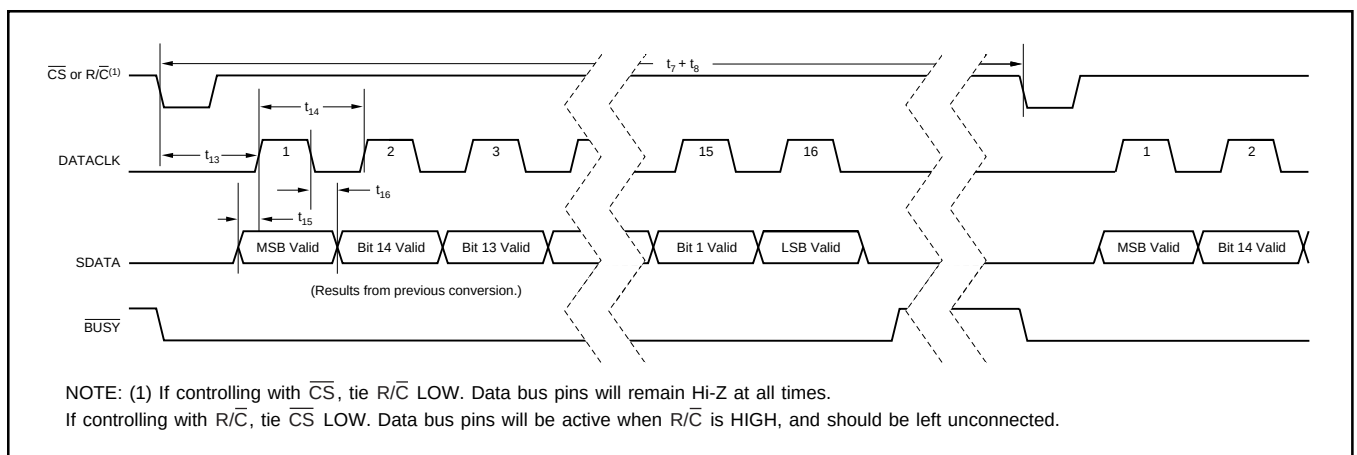

FIGURE 4. Serial Data Timing Using Internal Data Clock (TAG tied LOW).
NOTE: (1) See Figures 4, 5, and 6 for constraints on data valid from conversion 'n – 1'.
To use the internal data clock, tie $\text{EXT}/\overline{\text{INT}}$ (pin 8) LOW. The combination of $R/\overline{C}$ (pin 22) and $\overline{\text{CS}}$ (pin 23) LOW will initiate conversion 'n' and activate the internal data clock (typically 900kHz clock rate). The ADS7807 will output 16 bits of valid data, MSB first, from conversion 'n-1' on SDATA (pin 19), synchronized to 16 clock pulses output on DATACLK (pin 18). The data will be valid on both the rising and falling edges of the internal data clock. The rising edge of $\overline{\text{BUSY}}$ (pin 24) can be used to latch the data. After the 16th clock pulse, DATACLK will remain LOW until the next conversion is initiated, while SDATA will go to whatever logic level was input on TAG (pin 20) during the first clock pulse. Refer to Table V and Figure 4.